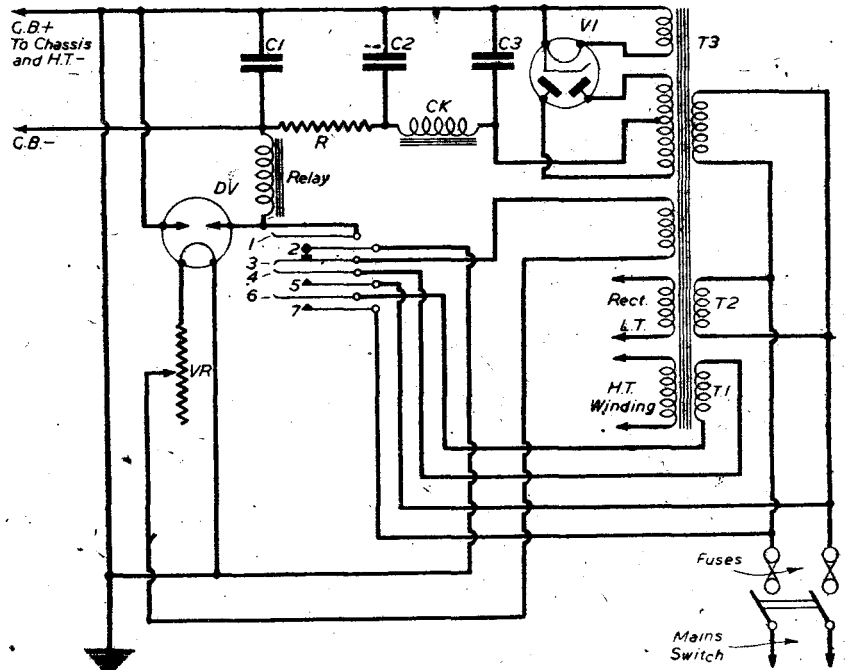

Fig. 2.—How the H.T. supply in a large amplifier is controlled by a delay valve and G.B. circuit.
D.C. for operating the relay and delay valve circuit is obtained from the grid-bias supply and Fig. 2 is a typical circuit which will enable the above description to be followed through more easily.
mains supply is taken to contacts 5 and 7 of this switch, but as shown in Fig. 2 the contacts are open so that there is no connection between T1 and the mains supply.